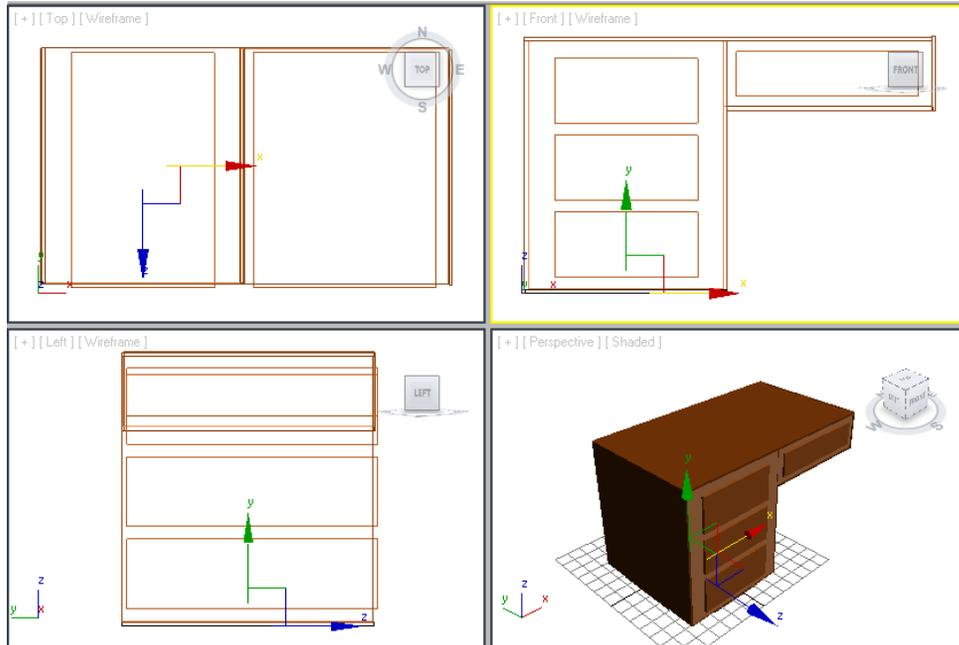

Figure 2-50 Alignment of lower face with the bottom of left box
10. Align *lower face* with the bottom of *left box*, as shown in Figure 2-50.